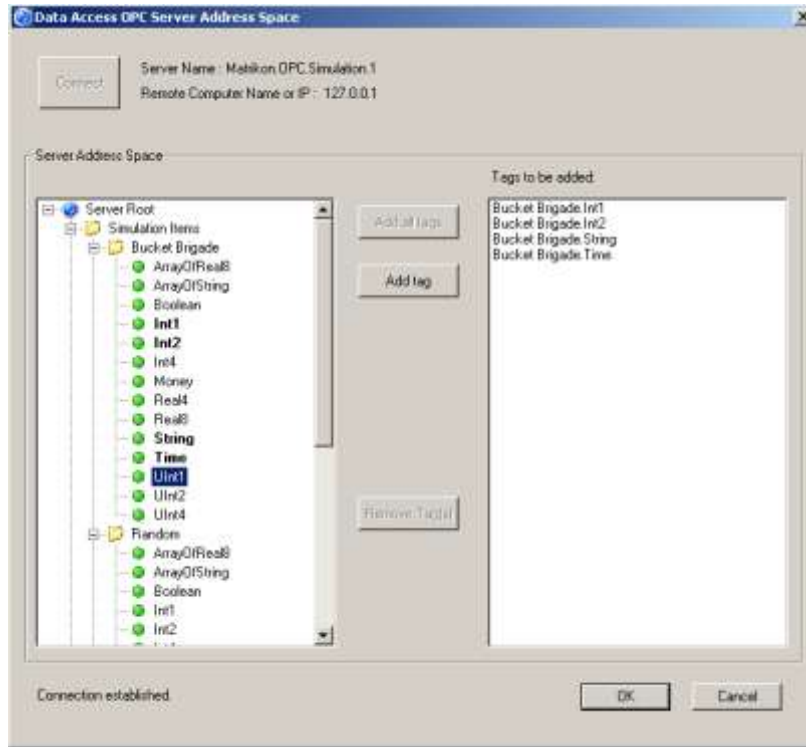

Fig 14 Browsing the server space and selecting the OPC items
- In the 'Server Address Space' section, the left section show all the existing items. You can navigate and select an entire folder ('Add all tags') or a single node ('Add tags') to add items for MM8000 to handle. Note that selected items are shown in bold (Fig 14).